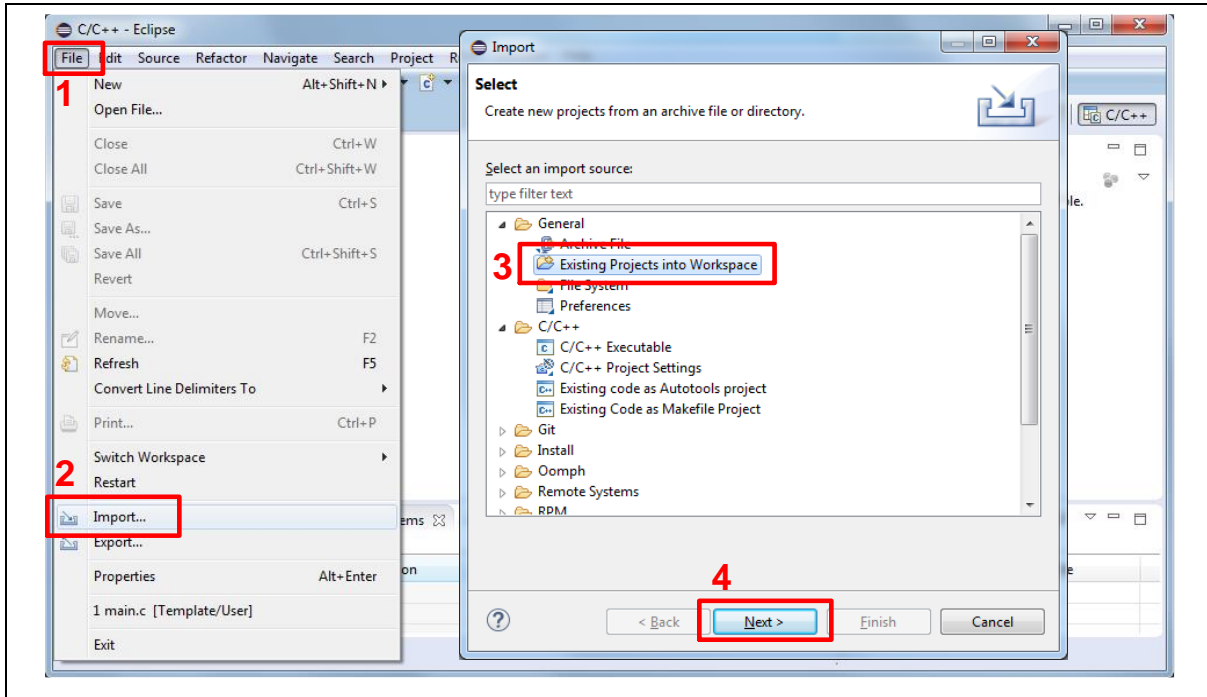
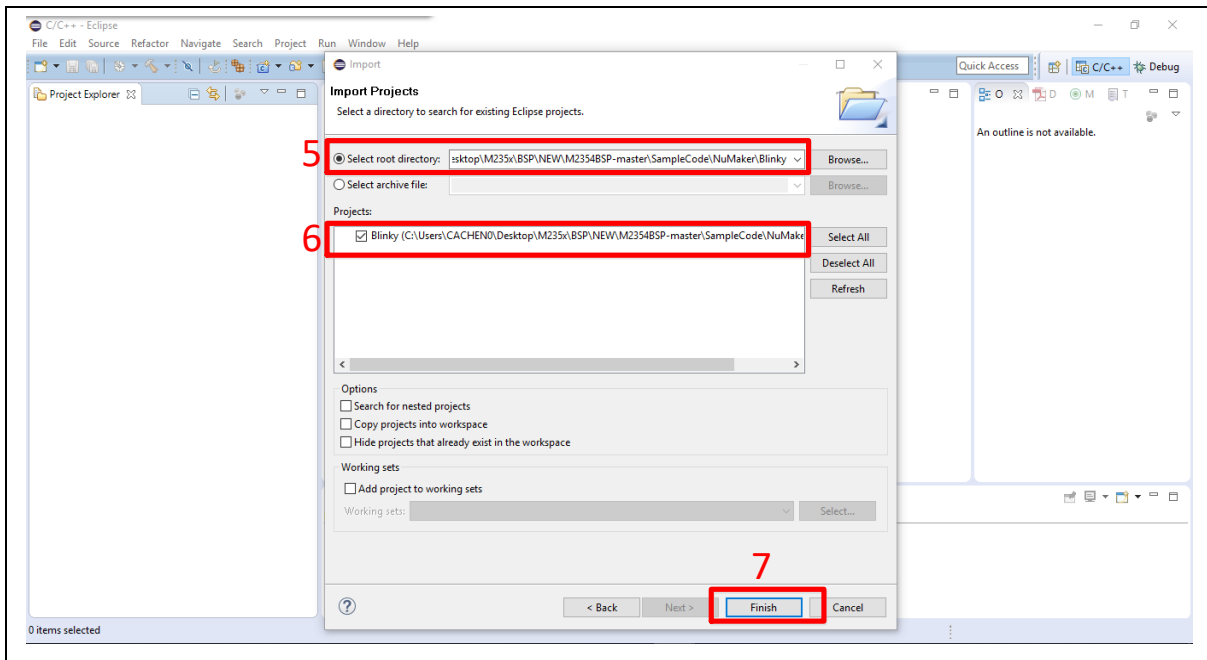

Figure 5-17 Import the Project in NuEclipse
Figure 5-18 Import Projects Windows
2. Import the “Blinky” project by following the steps presented in Figure 5-17 and Figure 5-18.